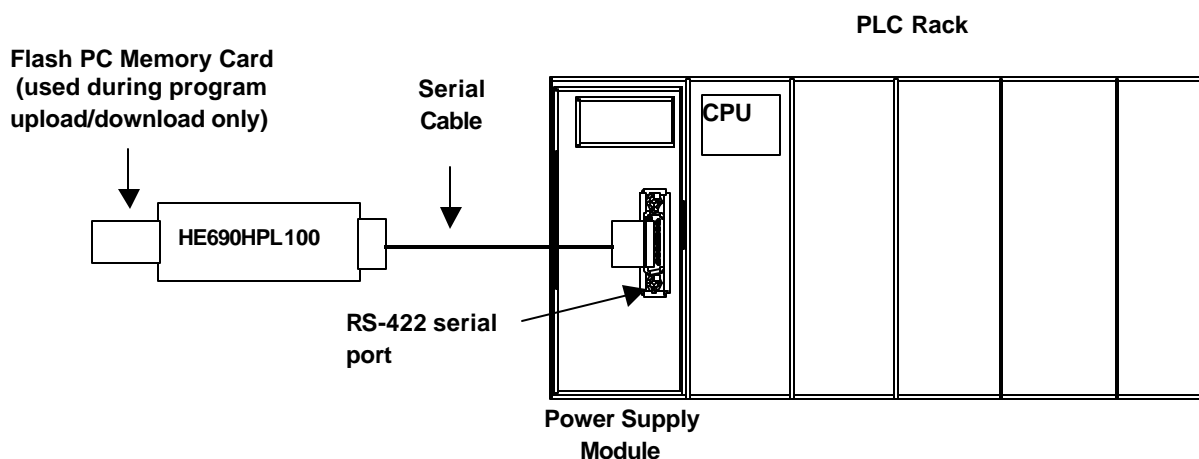

Figure 2.4 - Direction of Data Flow When Uploading/Downloading
2.3.1.2 Figure 2.4 depicts the data flow direction during upload/download functions.
1. Connect the HE690HPL100 to the PLC (Figure 2.4).